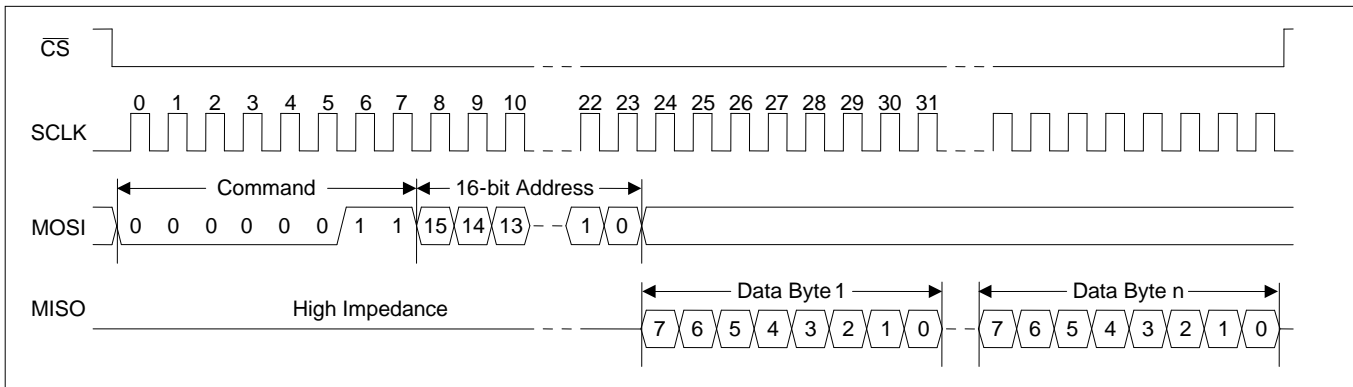

Figure 13 - SPI Read Transaction Functional Timing
**Read Transactions.** The device registers are accessible when **EESEL=0**. On a ZL30253 the internal EEPROM memory is accessible when **EESEL=1**. On a ZL30252 **EESEL** must be set to 0. After driving CSN low, the bus master transmits the read command followed by the 16-bit address. The device then responds with the requested data byte on MISO, increments its address counter, and prefetches the next data byte. If the bus master continues to demand data, the device continues to provide the data on MISO, increment its address counter, and prefetch the following byte. The read transaction is completed when the bus master drives CSN high. See Figure 13.
**Read Transactions.** After driving CSN low, the device transmits the read command followed by the 16-bit register address. The external EEPROM then responds with the requested data byte on MISO, increments its address counter, and prefetches the next data byte. If the device continues to demand data, the EEPROM continues to provide the data on MISO, increment its address counter, and prefetch the following byte. The read transaction is completed when the device drives CSN high. See Figure 13.